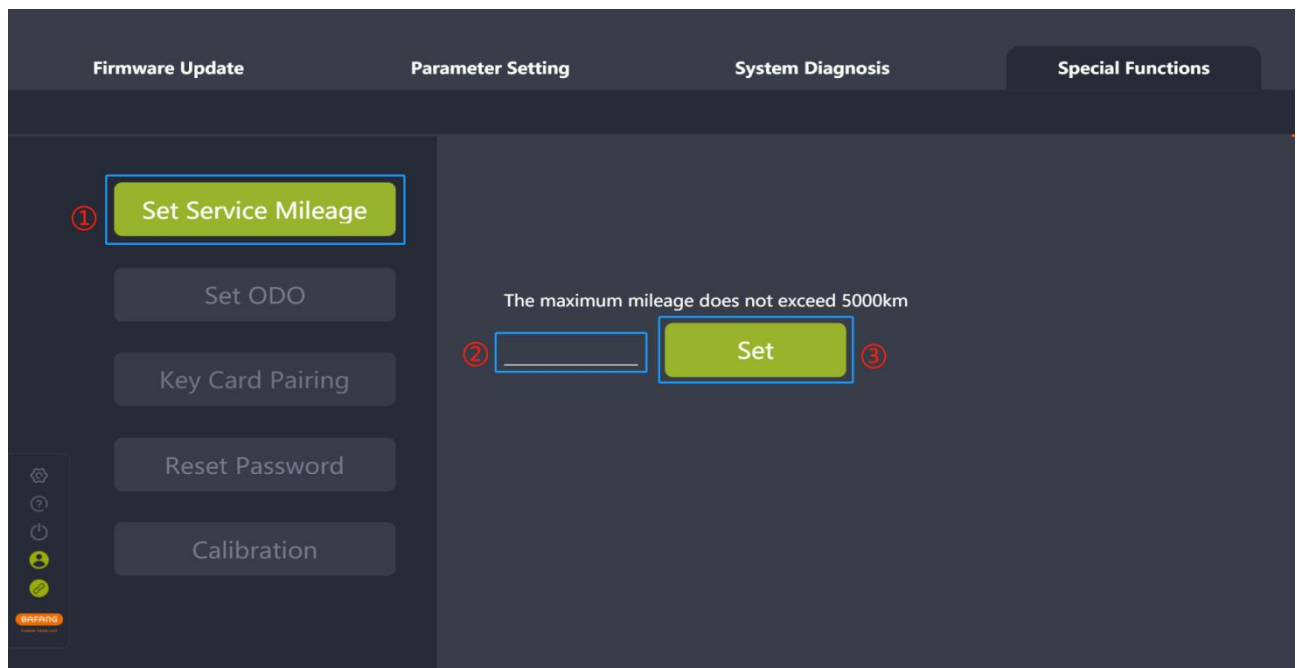

Fig. 7-1 Set service mileage
- (1) Connect the BESST Box to the display and select the "Set Service Mileage" icon;
- (2) Make sure whether the display supports this function. If it supports, enter the service mileage in the input box;
- (3) Click the "Set" icon (e.g. Fig. 7-1).